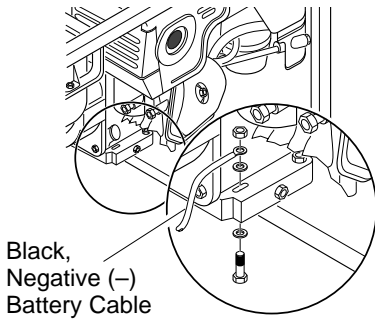

Figure 8 - Connecting Black, Negative (-) Battery Cable to Engine Block (Model PGH7500IE Shown)
2. Attach the black, negative (-) battery cable to the engine block. Use the bolt, nut, and two washers provided with the battery cables. Use long mounting hole on opposite side of engine from starter solenoid. Attach cable as shown in Figure 8.